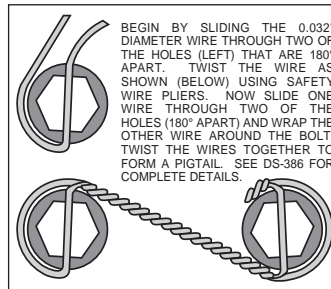

Figure 4. Safety Wire Diagram
- Orient the rotor (9) and the hat (10) as shown in Figure 2 and Photo 4. Attach rotor to hat using bolts (12) and washers (11). Using an alternating sequence, apply red *Loctite*® 271 to the threads, and torque to 25 ft-lbs. For an added measure of security, the bolts may be safety wired using standard 0.032 inch diameter stainless steel safety wire as shown in Figure 4. Refer to Wilwood's data sheet DS-386 (available at [www.wilwood.com/Pdf/DataSheets/ds386.pdf](http://www.wilwood.com/Pdf/DataSheets/ds386.pdf)) for complete safety wire installation instructions.